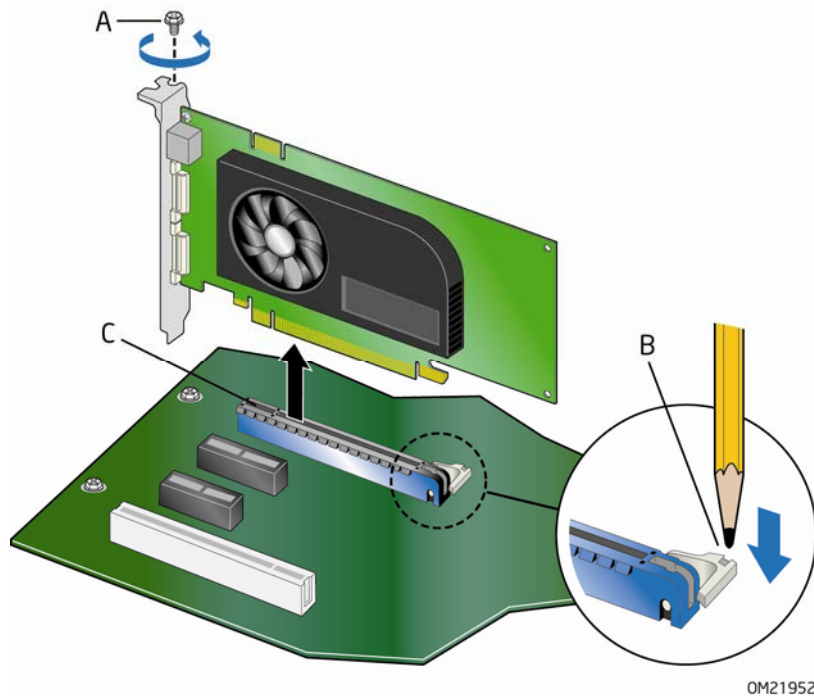

Figure 21. Removing a PCI Express x16 Graphics Card
3. Remove the screw (Figure 21, A) that secures the card's metal bracket to the chassis back panel.
4. Push the card ejector lever down using the tip of a pencil or similar tool (Figure 21, B) in the notch. This will release the card from the connector (C).